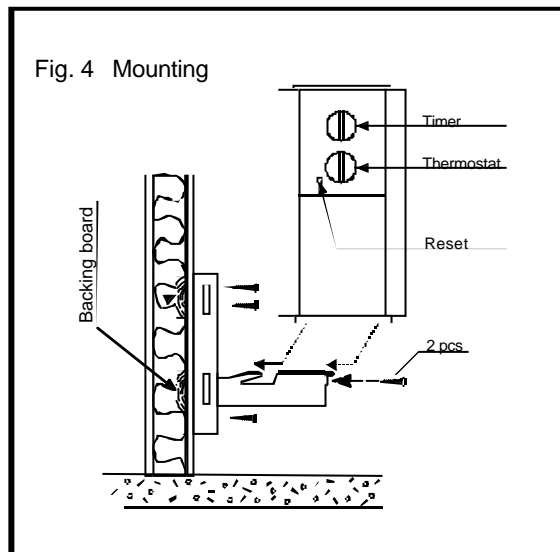

Fig. 3
- a) A pilot light outside the sauna room (terminal block 2 and 5, see wiring diagram fig. 3. For this connection please use wire of the same dimension as the connection wire for the heater, see tab. 1)